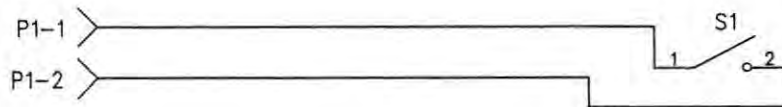

Figure 6-1. External Interlock
- Figure 6-1 shows the wiring diagram for the switch. One wire runs from pin 1 of the connector to the normally open contact of the switch. The other wire runs from pin 2 to the common terminal of the switch. The switch is shown in the open position. This is the condition where you do not want the laser beam to operate.